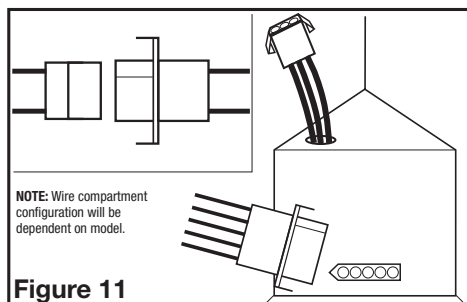

Figure 11
3. Plug the fan's 5 pin quick connect motor cord into the receptacle on the side of the wiring compartment cover and the light's 2 pin quick connect into the receptacle on the top of the wiring compartment cover. These cords will only fit one way into the receptacles (**Figure 11**).